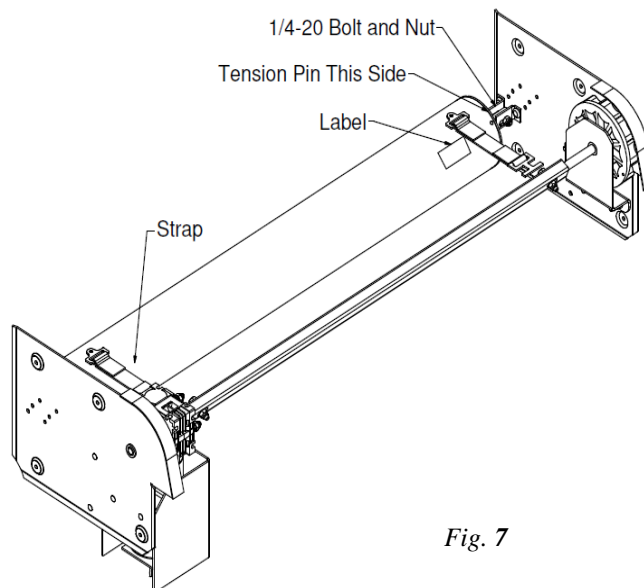

Fig. 7
- a) Place the operator shaft into the U-Brackets on the pennant plates. The tension pin and label shall be on the right while looking into the compartment as shown in Fig. 7.